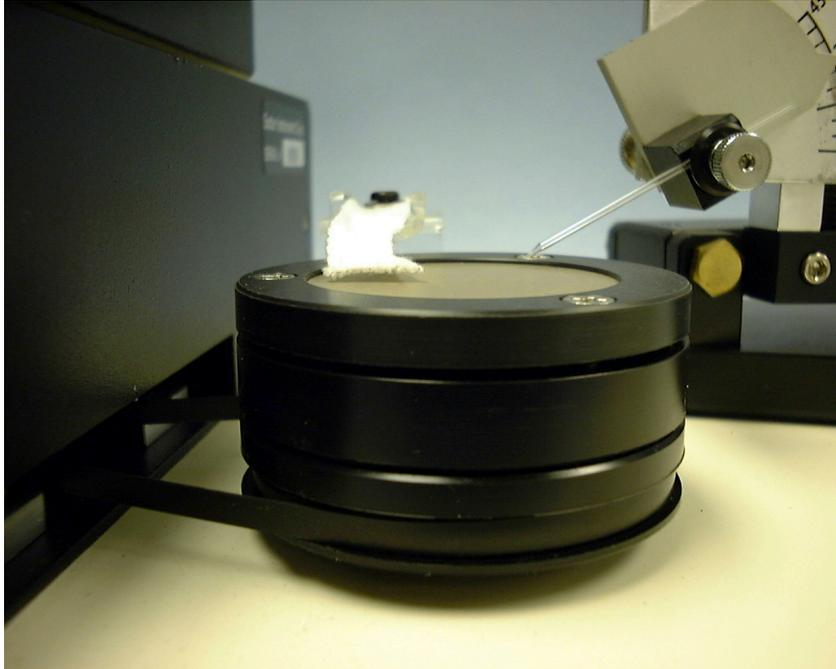

Figure 1-2. Pedestal/Grinding Assembly.
- b. Identify the abrasive surface on the grinding plate. The top abrasive surface has a speckled finish -- it is marked with a part number. Place grinding plate between the two retaining rings with abrasive surface facing the top retaining ring as per Figure 1-2. Secure in place by screwing upper retaining ring to lower retaining ring. Tighten screws down until you feel a slight resistance and then turn them another $1/8$ turn.